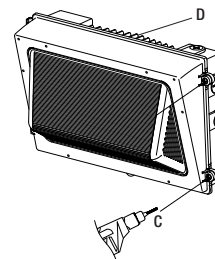

Fig. 1
**NOTE:** The mounting base screws (C) come pre-installed on the light fixture.
- Loosen the two mounting base screws (C) using a Phillips screwdriver to open the fixture.(Fig.1)